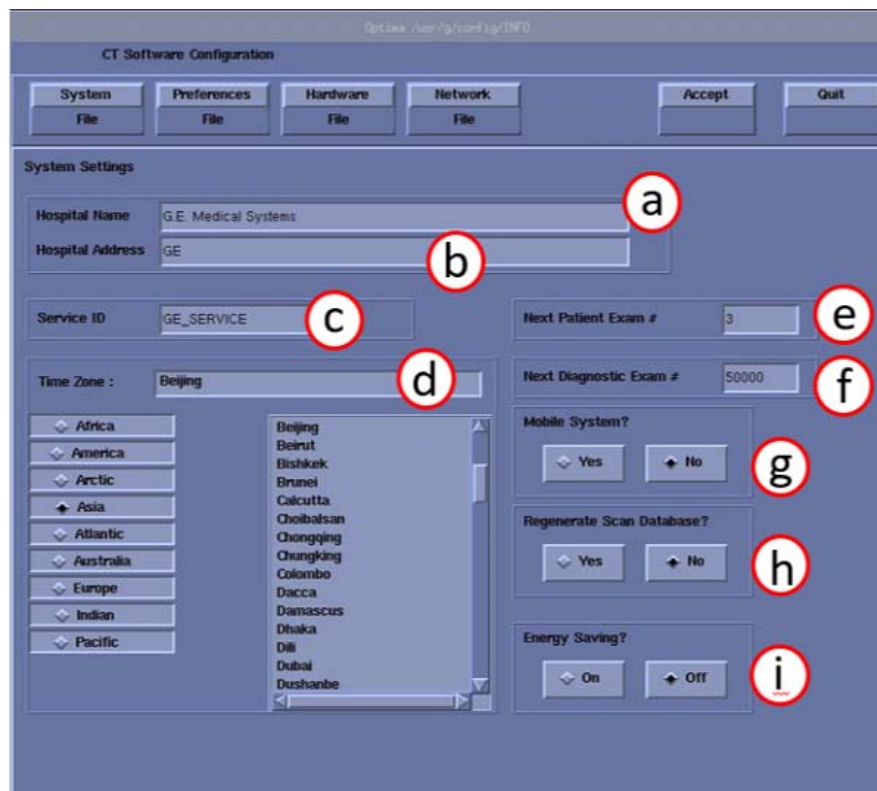

Figure 6-12 System Settings Screen
The OC displays the System Configuration - System Settings Screen as shown in Figure 6-12.
- a.) Hospital Name (Figure 6-12, item 1) configures the name that will show up on images produced by this scanner. *Example: ST MARYS HOSPITAL*
- c.) Service ID (Figure 6-12, item 2) is issued by the Service organization. *Example: 262785CT2 (no spaces)*